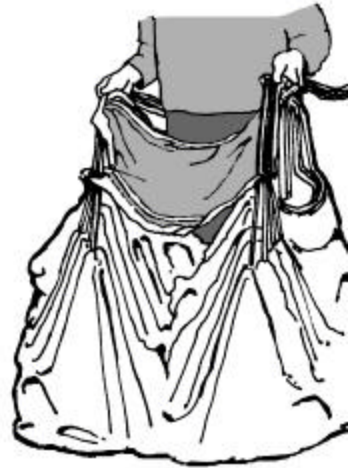

Figure 4
Step 6.) With the harness / container system secured, apply tension to the lines, and step between the right and left line groups and grasp the right line groups in the right hand and the left line groups in the left hand. Push the slider toward the canopy, and walk forward. Pick up the canopy by the suspension lines and allow it to hang downward (See Figure 4.) Push the slider up as far as it will go until each slider grommet comes to its respective slider stop.